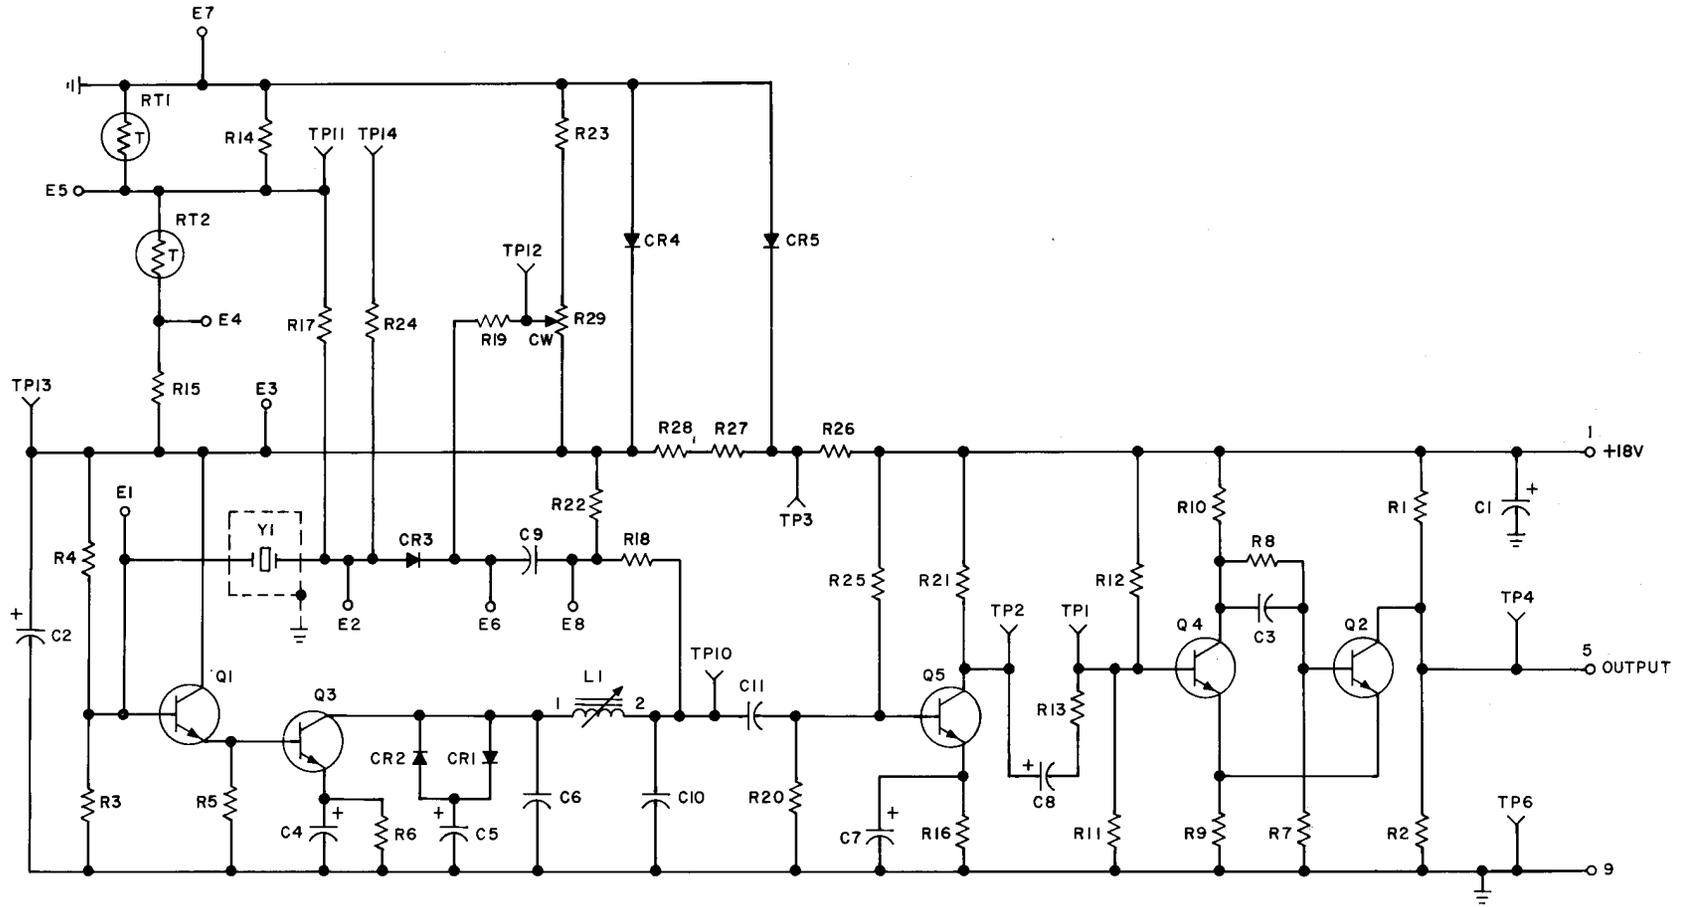

Fig. 72A — 65A Oscillator Circuit Pack Assembly, Circuit Sketch
12.01A *Circuit Description:* The 65A oscillator is a stable time base generator. Timing signals are generated by a crystal oscillator, buffer-amplified, and shaped in three circuit stages. A circuit sketch is illustrated in Fig. 72A.